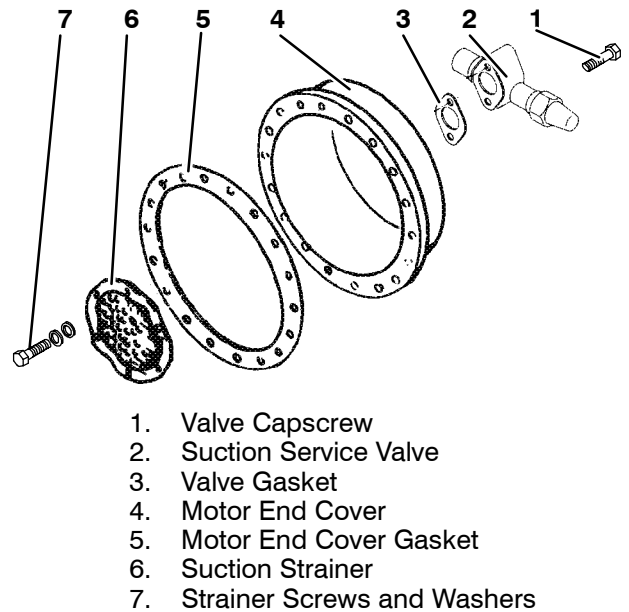

Figure 4-8. Motor End Cover
h. Remove the refrigerant suction strainer and if it is removed with ease it may be cleaned with solvent and replaced. (See Figure 4-8.) If the strainer is broken, corroded or clogged with dirt that is not easily removed, replace the strainer. Install new gaskets upon reassembly.